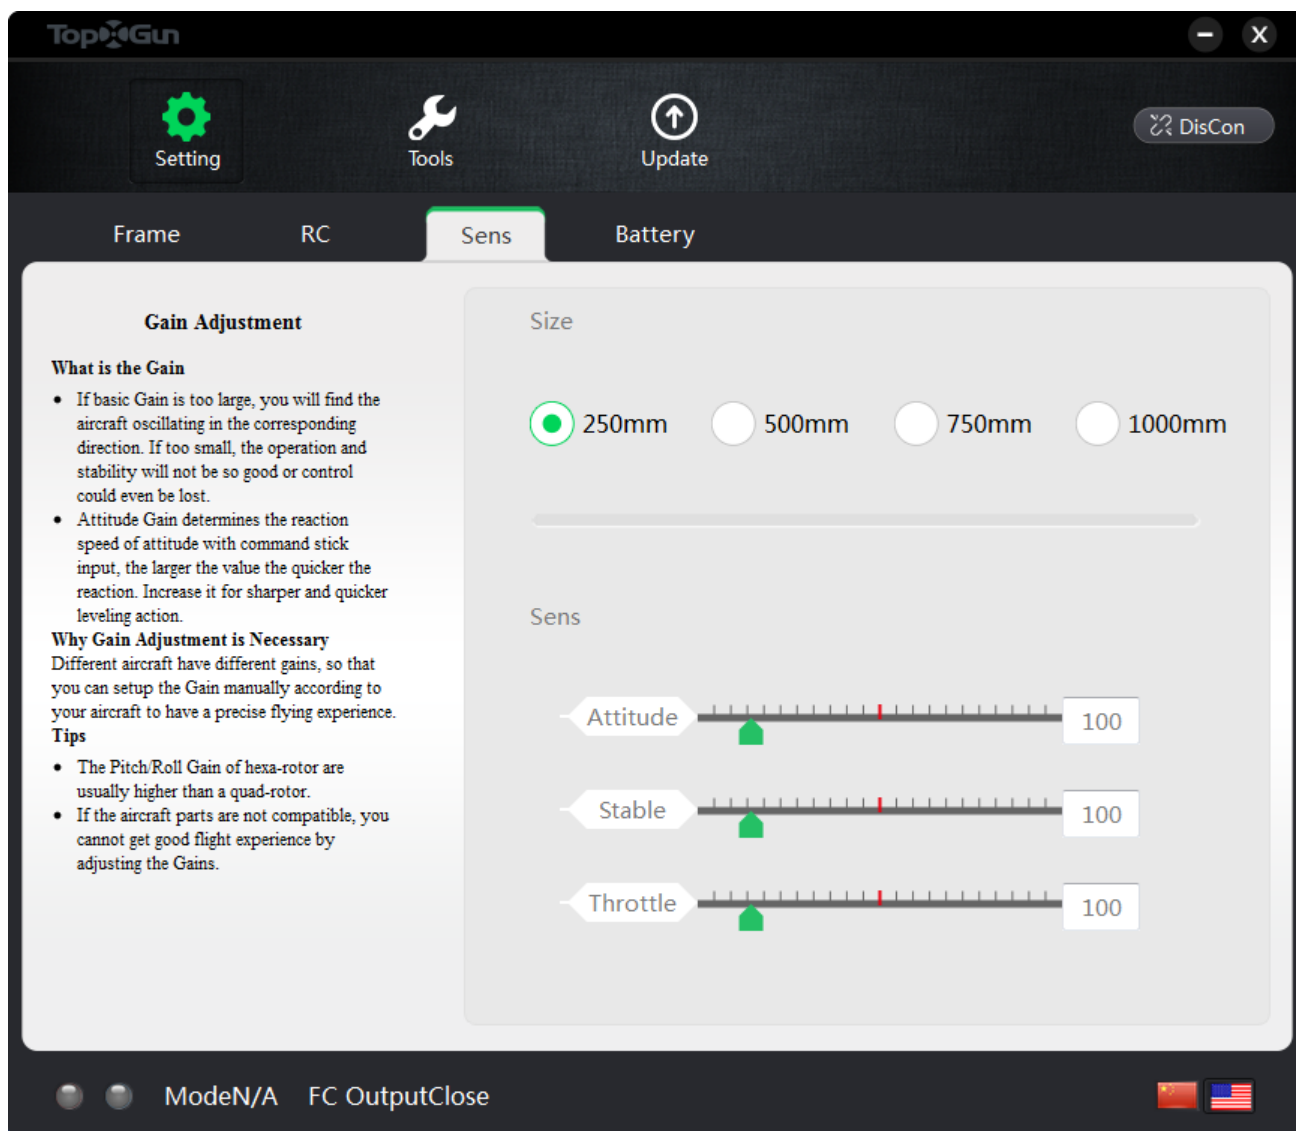

Figure 1-6 Gain setting
Step4. Gain setting , as shown in Figure 1-6.